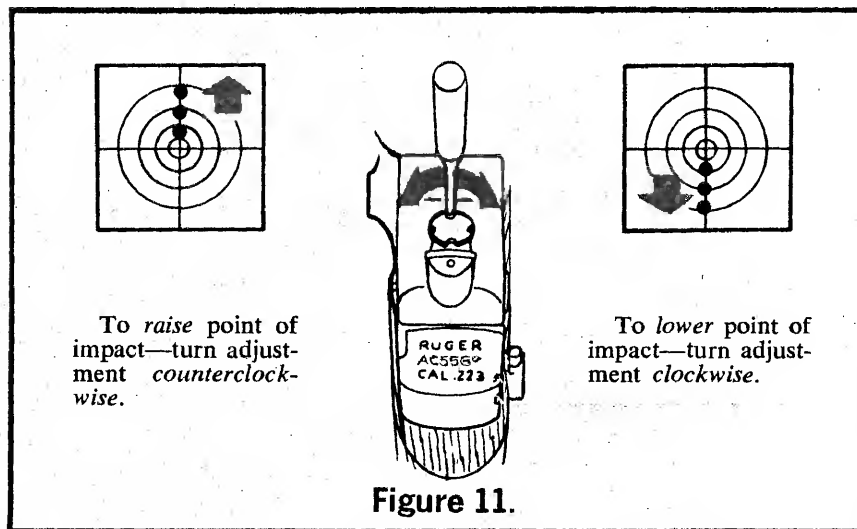

Figure 11.
2. ELEVATION ADJUSTMENT—To *raise* the point of impact, turn the adjustment *counterclockwise*. To *lower* the point of impact, turn the adjustment *clockwise*. (See Figure 11).